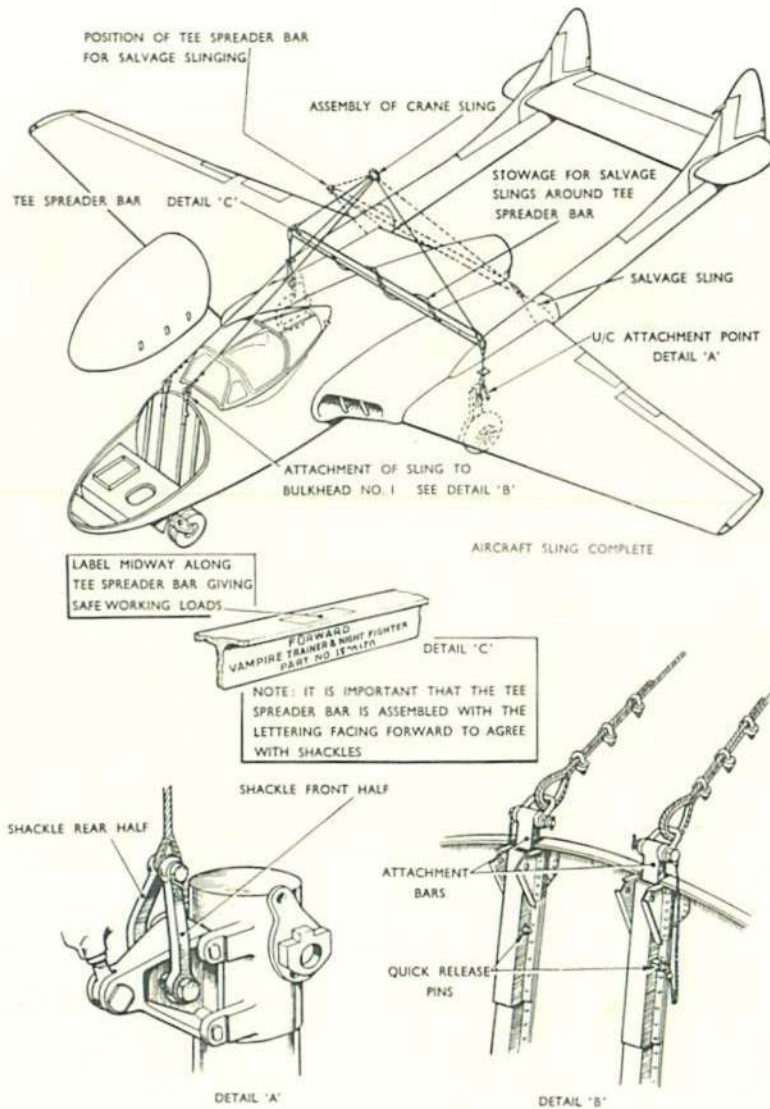

Fig. 4 Slinging
7. Before attaching the aircraft sling shown in Fig. 4, the fuselage metal nose cap must be removed by unscrewing the stiffnut securing the support strut to the nose cap and removing the two hinge bolts. For all-up-weight of the aircraft under various loading conditions, refer to Chapter 3 of this Section.